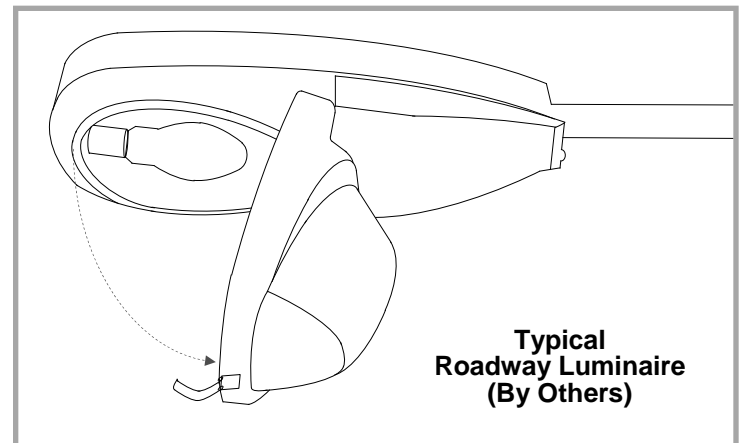

Figure 1: Open the door of your existing luminaire.
Step 1: Open The Door of Your Existing Luminaire (Figure 1)